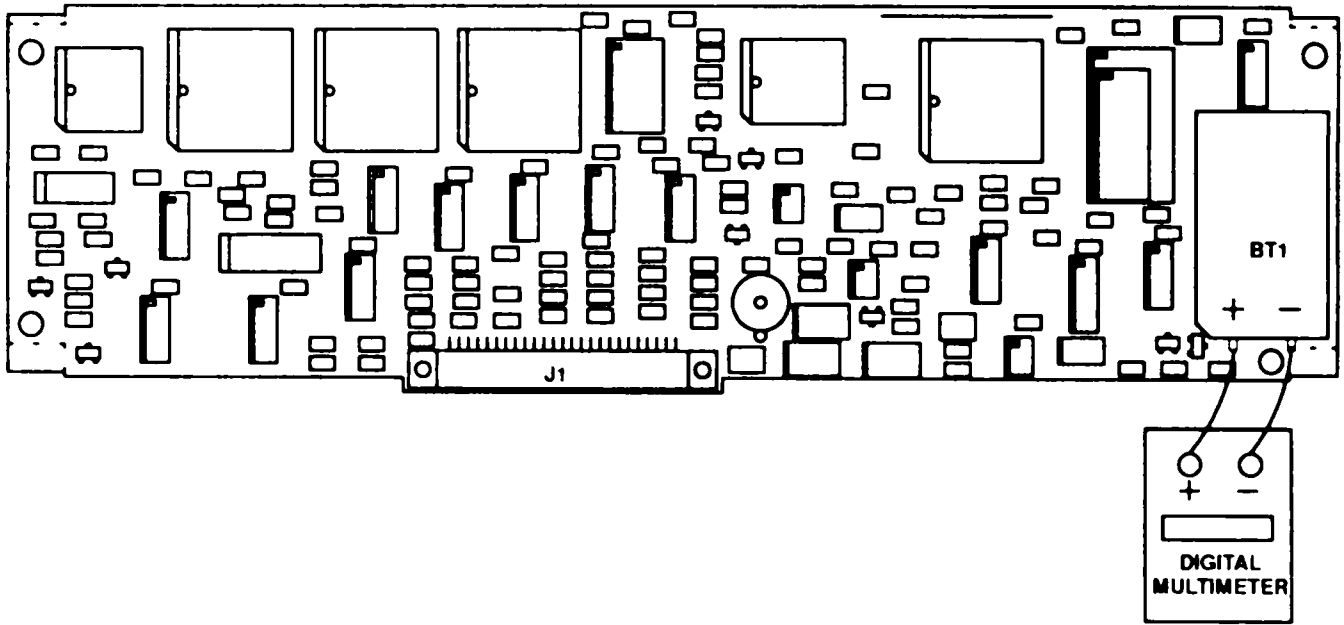

Figure 4-4. BT1 Lithium Battery Test Set Up
- b. Use the digital multimeter to check the voltage of BT1 Lithium Battery. See Figure 4-4.